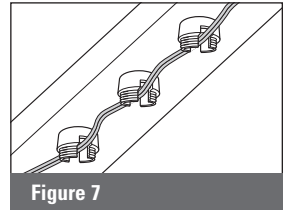

Figure 7
7. Feed main low voltage cable through post or post sleeve and across top connectors. (Figure 7)